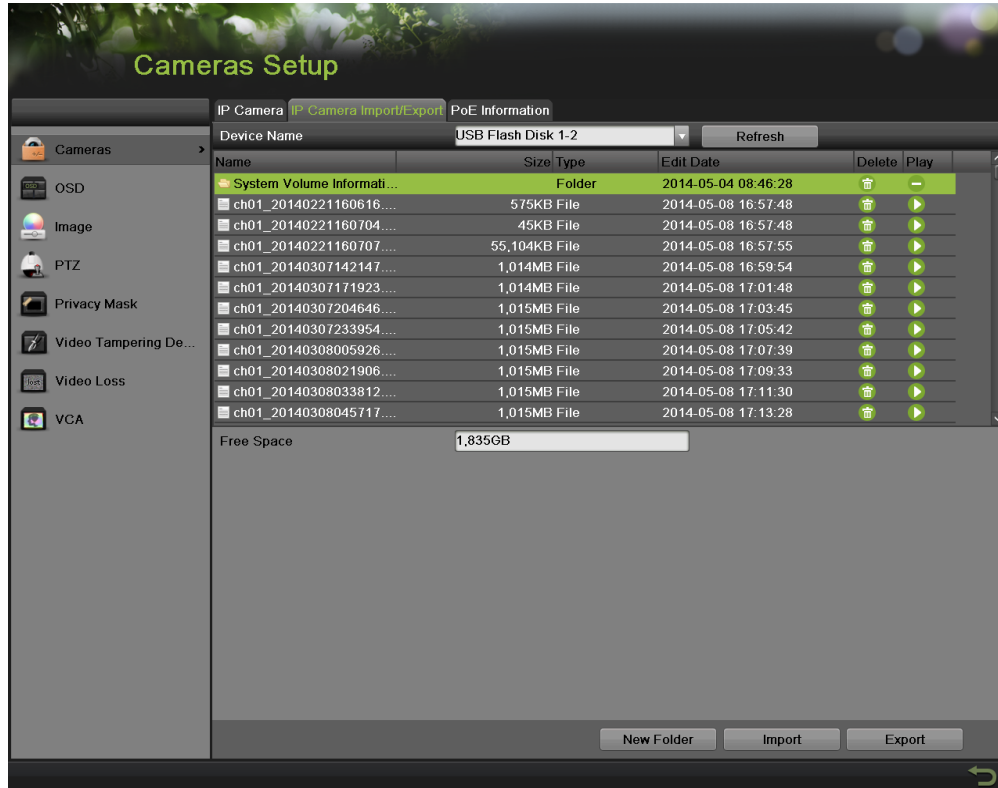

Figure 118 IP Camera Import/Export Management Menu
1. Enter the Cameras menu by going to Menu > Cameras Setup > Cameras. Select the IP Camera Import/Export tab, as shown in Figure 118.
1. Enter the Cameras menu, shown in Figure 118 by going to Menu > Cameras Setup > Cameras. Select the IP Camera Import/Export tab, as shown in Figure 118.